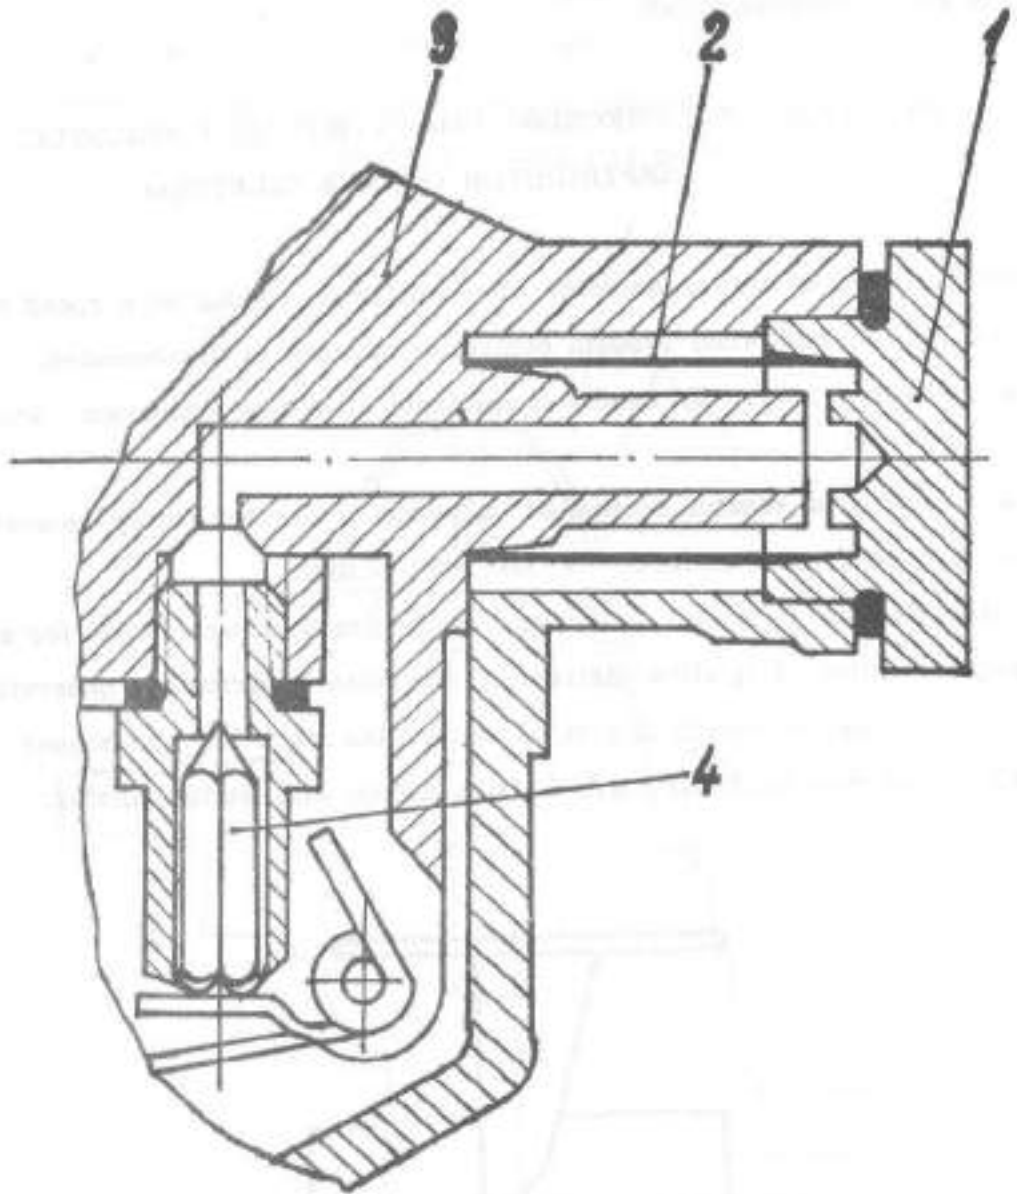

Fig. 2.22. CARBURETTOR INLET STRAINER
- Carefully remove the cylindrical gauze strainer, checking in the same time if gasket or strainer are not deformed or fissured and if the sealing surface has no blows (see fig. 2.22).